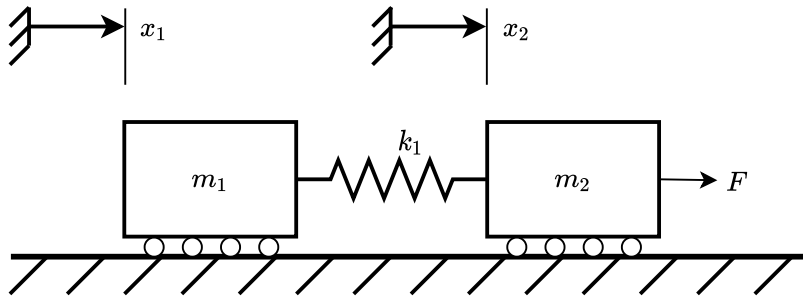

Figure 4: Two coupled carts moving on a surface with no friction.
Figure 4 illustrates two coupled masses (carts) connected through a lossless spring, moving on a surface with no friction.
1. Create free-body diagrams of the system in Figure 4.